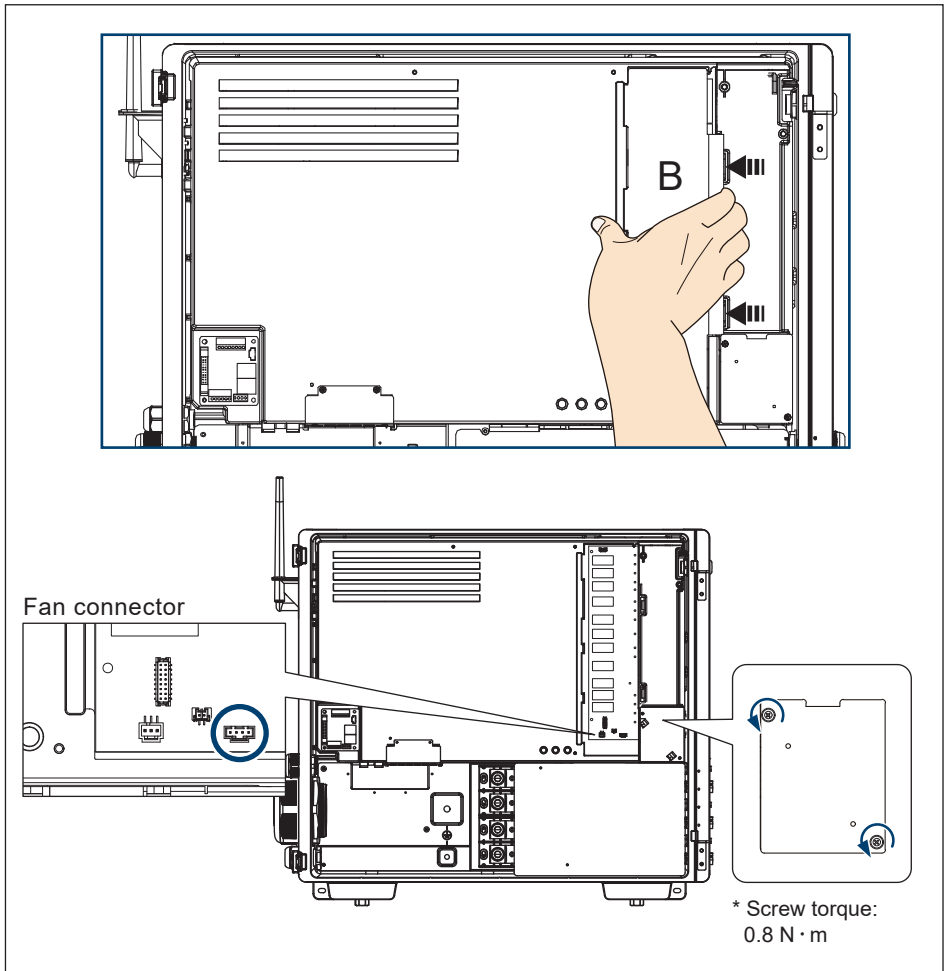

Figure 5-11: Internal fan 1 location & remove the shield cover
- (1) Remove the B cover. **(Figure 5-11)**
- (2) Disconnect the power connector on the LED board. **(Figure 5-11)**